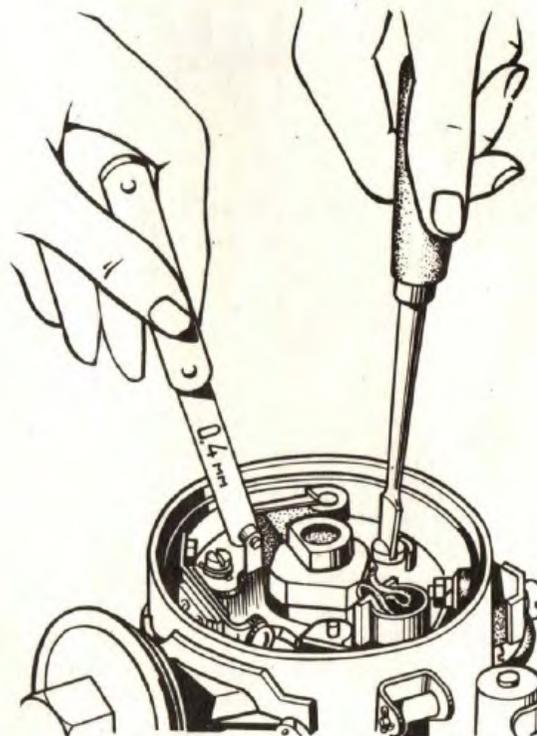

Fig. 25. Breaker Point Gap Adjustment
1. Ensure that the breaker point gap is 0.35-0.45 mm (Fig.25) and the points are clean.